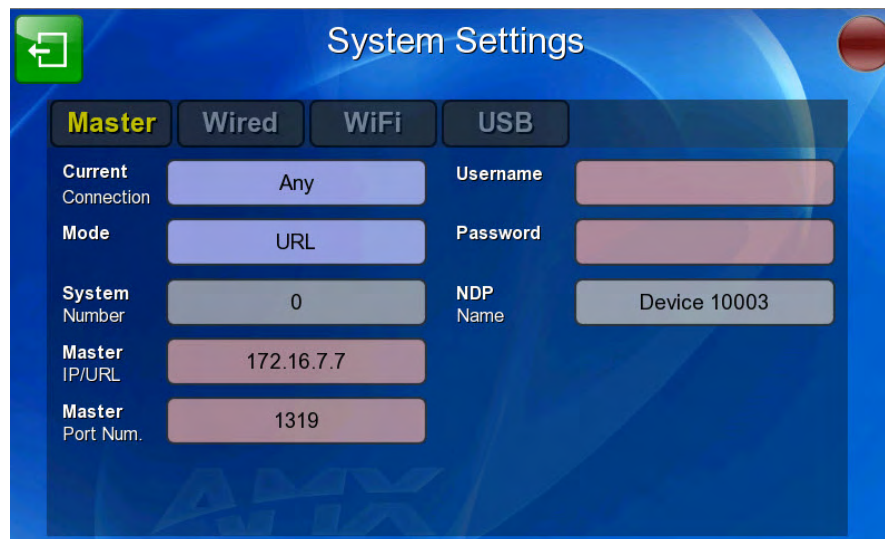

FIG. 27 System Settings page - Master Tab
2. The *Current Connection* field displays the current connection availability (FIG. 27). If this field reads “Any”, then connections may be made via Ethernet, wireless Ethernet, or USB.